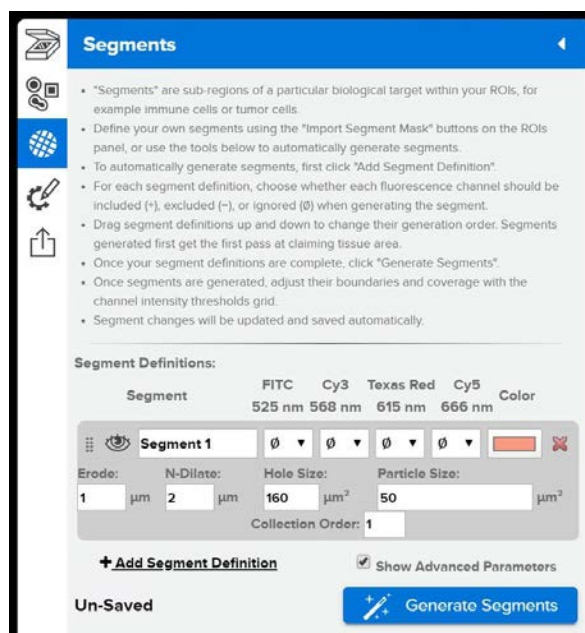

Figure 35: Scan Workspace segmentation menu
1. Select **+Add Segment Definition** one time to establish a single definition rule. One gray Segment Definition box will appear (see Figure 35).